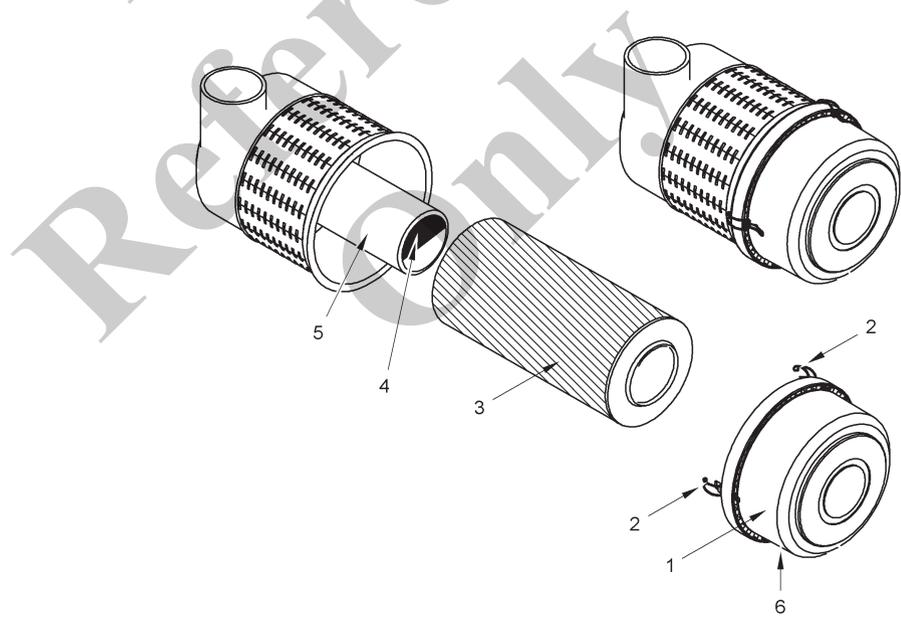

Fig. 200 Structure air filter
1	Open the locking clamps (2) in Fig. 200 of the air filter cover (1) and remove the air filter cover.